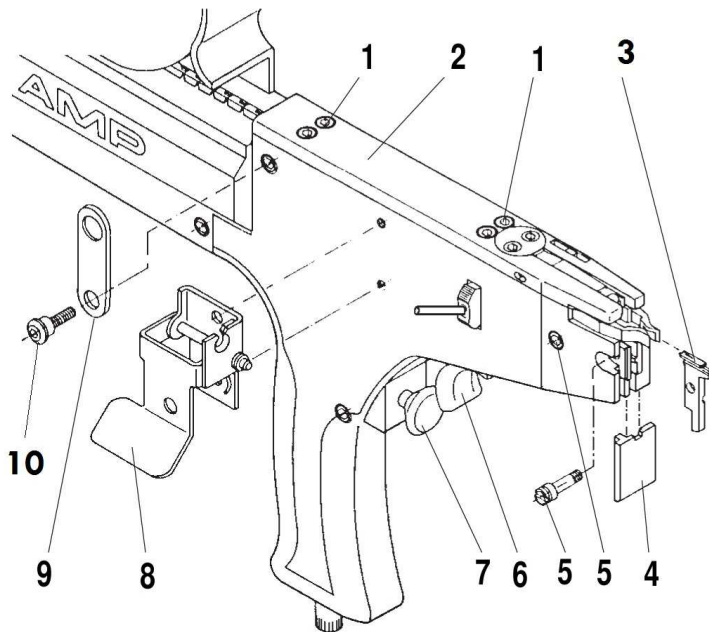
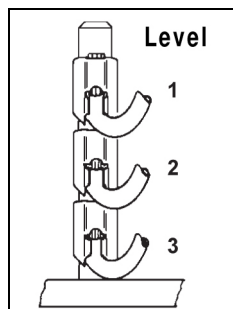

Fig. 7: Tool Preparation
Fig. 8: Clip Level
2. Place index finger on wire funnel lever (directly above trigger, Fig. 7) and operate wire funnel lever several times. Note that as lever is pulled, wire funnel on top of tool (Fig. 7) moves back and, as lever is released, wire funnel moves forward. In operation, this permits wire to be properly positioned in tool and clamped in place for termination cycle.
3. With clips loaded (Fig. 8) and mandrel installed Fig. 7), connect tool to air supply and regard all applications in section 3 „General safety instructions“.
3. Remove mandrel holding screw (ref. Fig. 7) and loosen screw (10).
4. Remove tooling foot (4).
2. Remove mandrel holding shoulder screw (ref. Fig. 7) and screw (10).
3. Remove tooling foot (4).
The clip positioning adjustment consists of a positioner dial marked with the numbers 1, 2 and 3 (Fig. 8).
The setting of the positioner dial determines the distance the clip covers as it is applied to the post. Having selected setting 1, the clip is positioned on the upper, using setting 3 on the lower level of the post (Fig. 8).